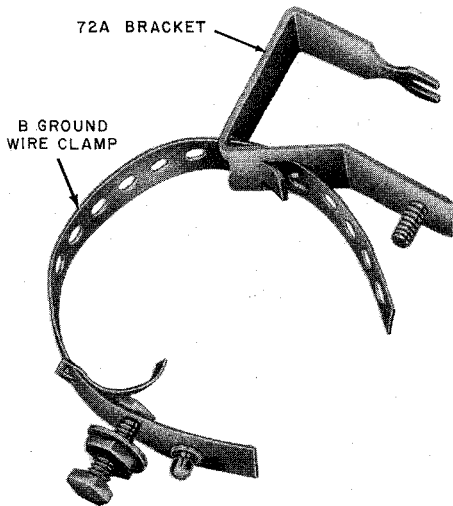

Fig. 35—B Station Ground Clamp Through Slots in 72A Bracket
- (1) Place a B station ground clamp through slots in the bracket (Fig. 35).
- (2) Attach the B station ground wire clamp to an acceptable metallic cold water pipe in the usual manner.
- (3) Remove the screw or bolts from the bracket and slide the protector in place, making sure the notched portion of the bracket is under the pronged washer of the ground terminal of the protector.